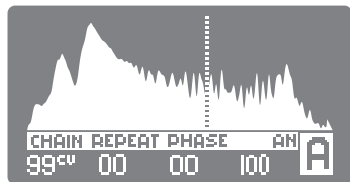

fig. 3: MAIN SCREEN
The blue-illuminated **CHANNEL** button ❹ (lit when active) allows cycling through the channels. The OLED display ❺ provides all the necessary visual feedback in real time, for the selected channel, with its name clearly displayed in the bottom-right corner (fig. 3). **NOTE:** whenever the module remains idle for 10 minutes, the screen turns off; simply push or turn anything to re-enable. Editing the envelope in the current channel is very easy: